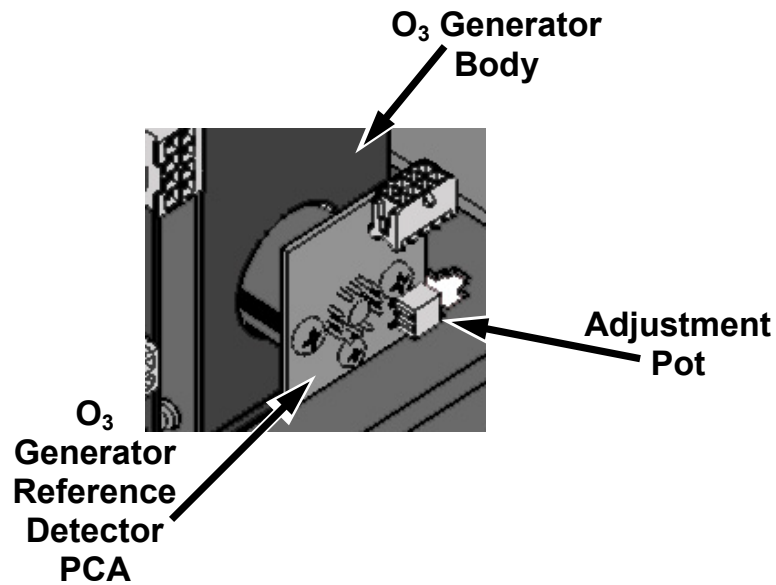

Figure 5-10. Location of O₃ Generator Adjustment Pot
10. Using an insulated pot adjustment tool, turn the O₃ Generator Adjustment Pot (Figure 5-10) until the value of O3 Gen Ref is 2500.0 mV \pm 100 mV.